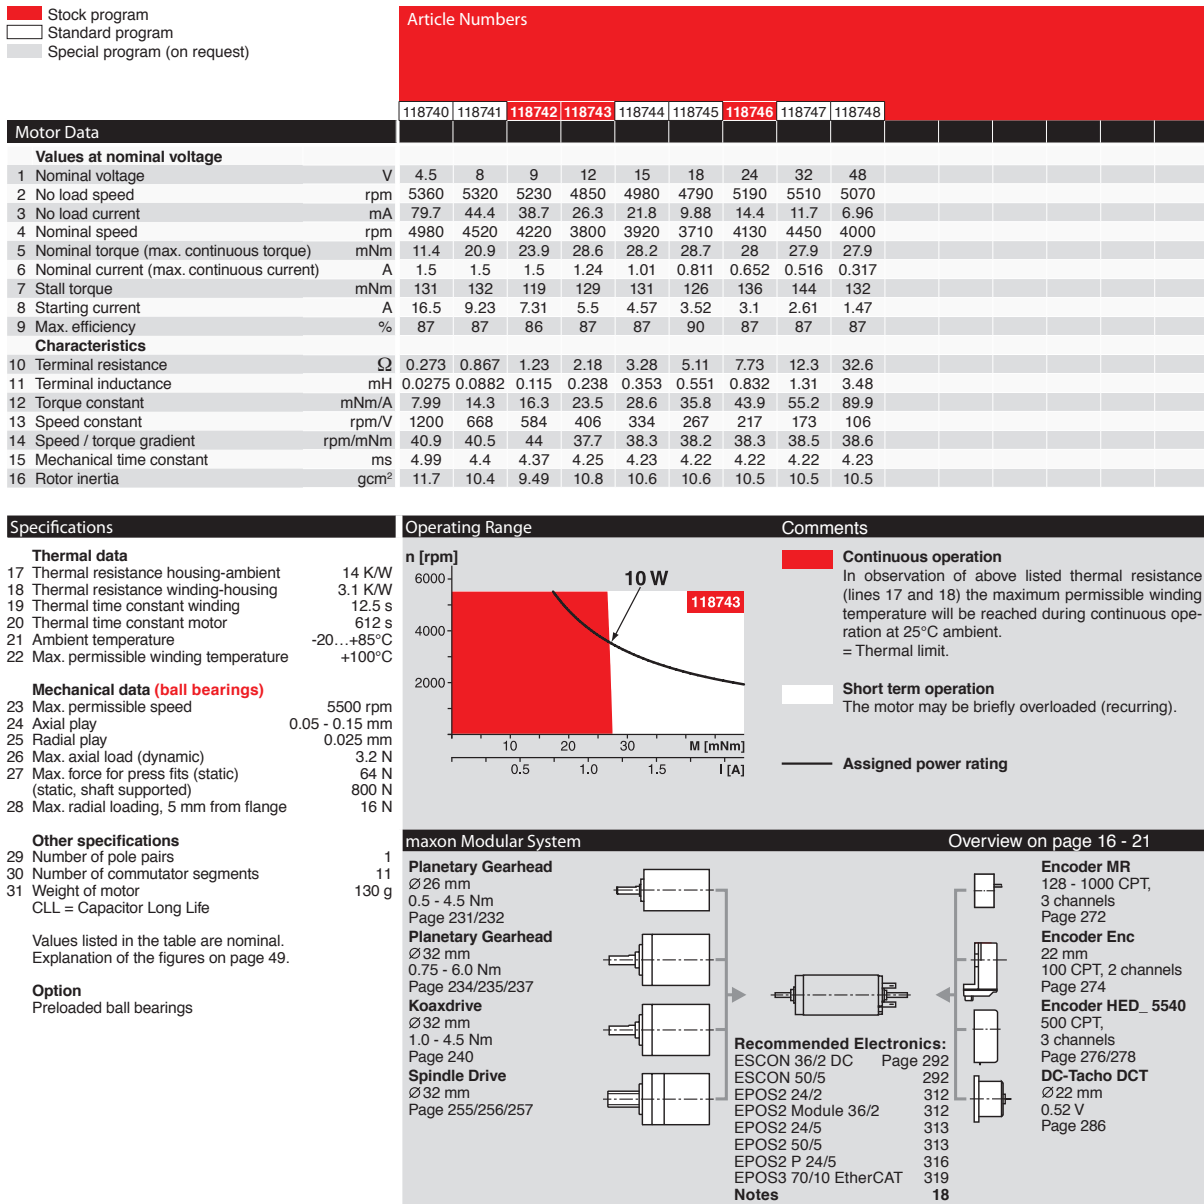

Figure 13.15: The data sheet for the Maxon RE 25 motor. The columns correspond to different windings for different nominal voltages.
- Figure 13.15 gives the data sheet for the 10 W Maxon RE 25 motor. The columns correspond to different windings.
- (i) (Optional) Motor manufacturers may specify slightly different continuous and intermittent operating regions than the ones described in this chapter. For example, the limit of the continuous operating region is not quite vertical in the speed-torque plot of Figure 13.15. Come up with a possible explanation, perhaps using online resources.